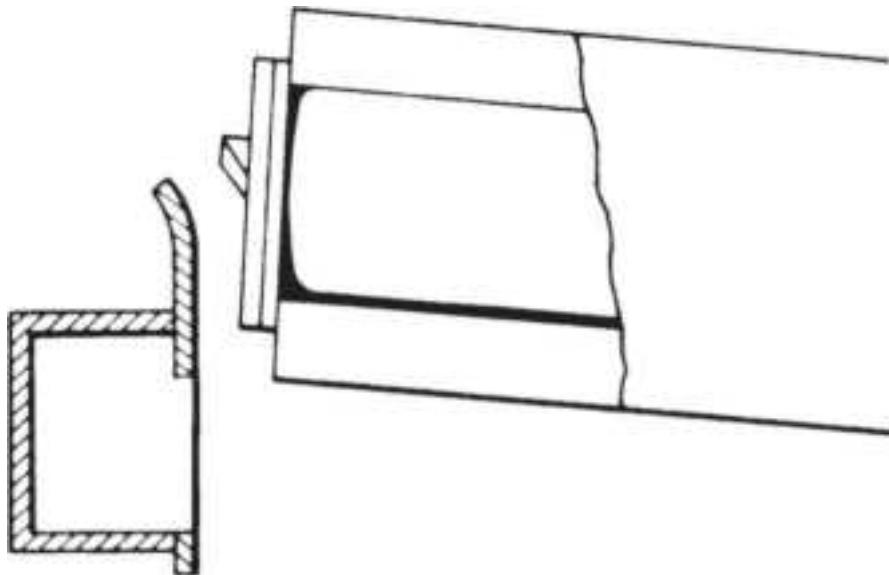

**Figure 13.9** Latchbolt won't project from lock face.
**Problem 3: Latchbolt will not project from the lock face.** Latchbolt tail and retractor may be misaligned (Fig. 13.9). See Problem 2. If this is not the cause, the spring is probably broken.